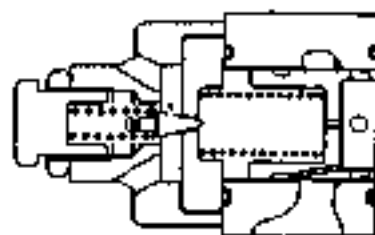

Fig. 2-50 Relief valve
When the load is excess during operation, the pressure of hydraulic system will exceed the adjusted pressure(14. 0MPa) momentarily. At this point the relief valve(17)(See Fig. 2-50) is open and the oil returns to the hydraulic tank via relief valve(17) to protect the hydraulic system.